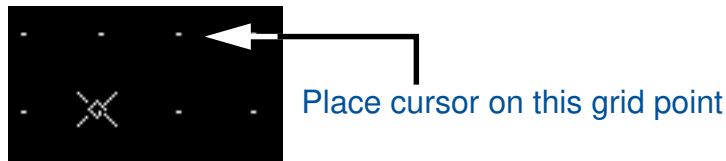

Figure 1-16. Location of Absolute Coordinate X=0.1, Y=0.1
2. Place the cursor at the first grid point to the right of the geometry origin (where the basepoint is at approximately the center of the edit window) and one grid up, as shown in Figure 1-16. To verify you have the correct location, look at the Absolute coordinate location (Abs) displayed in the status window. The Absolute coordinate location must be 0.1, 0.1. When the cursor is correctly located, click the Select mouse button.